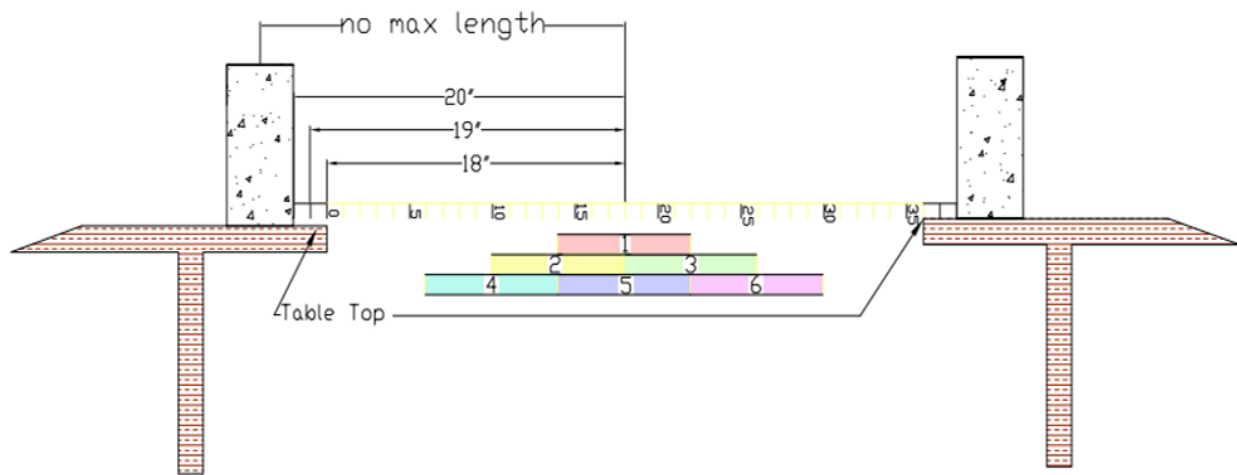

Figure 7: Possible Loading Positions
4. The roadway/loading surface must be provided at all potential wheel support locations (refer to Figure 7). Since the truck that is loaded has “wheels” that are each 2” wide, the roadway shall have enough material to prevent the wheel from falling through. There should not be any obstructions that would prohibit the truck from “driving” across the bridge span.
2. The truck will be placed on the loading surface at a point that will be determined by the roll of a die, which will take place at the time all bridges are received (see Figure 7). The random point will remain the same for all teams. A load transfer bar will be placed across the top of the truck with chains connected at each end extending downward to connect to a loading platform beneath the structure. The loading plate is set on 4" tall blocks to assure that when the plate touches the base, the deflection of 4" has been exceeded. Participants will test each structure by placing the supplied weights onto the loading platform until failure. All bridges will be checked to assure the crossbar will fit prior to the competition.
4. The loading apparatus (truck + loading platform) must be capable of being supported on the loading surface (roadway) as shown in the diagram. This means that your structure **MUST** have enough roadway surface for the truck to be placed at one of the six locations along span (see Figure 7), but each bridge does not need a continuous surface. The roadway should be reasonably level (some arch is permitted) from one end of the bridge to the other without obstruction. Bridges with roadways that have excessive slope causing the truck to slide off of